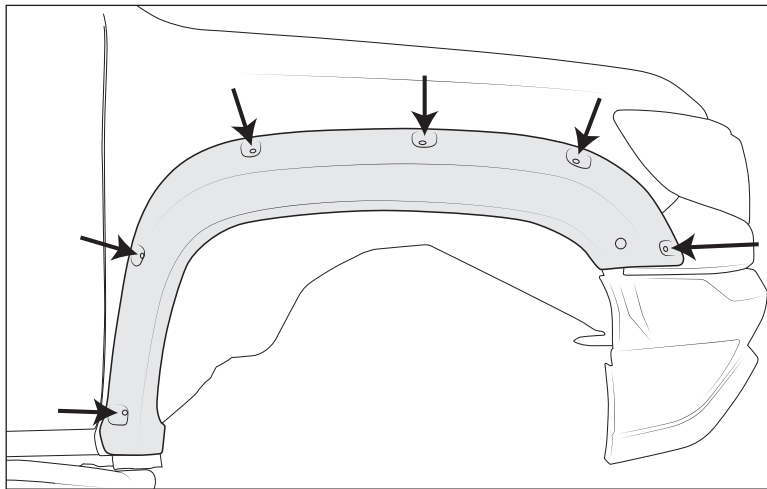

Figure 4
5. Hold flares to vehicles and center punch all holes using flare as template (fig. 4).